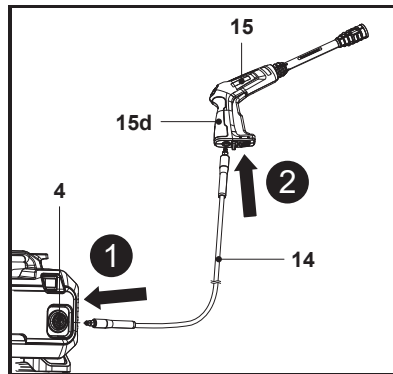

Fig. 4
1. Push one end of the pressure hose (14) into the hose connector (4) on the machine until the end with a click (Fig. 4, step 1).
3. Push the other end of the pressure hose (14) into the hose connector (15d) on the spray gun (15) until the end with a click (Fig. 4, step 2).